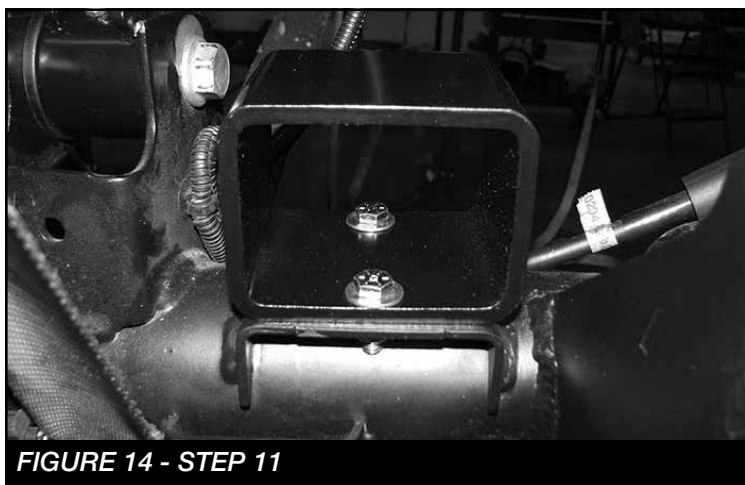

FIGURE 14 - STEP 11
12. Locate and install FT50401BK (Rear Bumpstop Spacer) using the supplied 5/16" hardware. Torque to 29 ft-lbs. **SEE FIGURE 14**